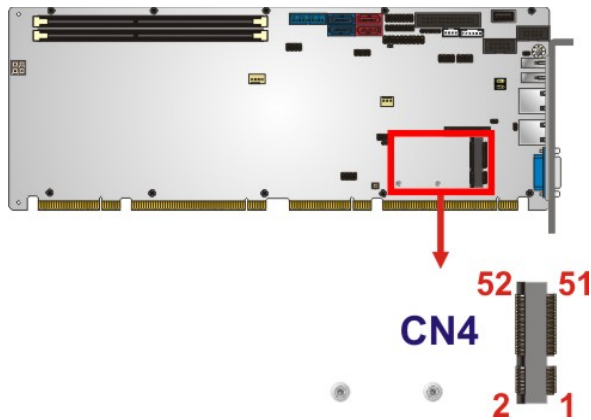

Figure 3-18: PCIe Mini Slot Location
- CN Location:** See **Figure 3-18**